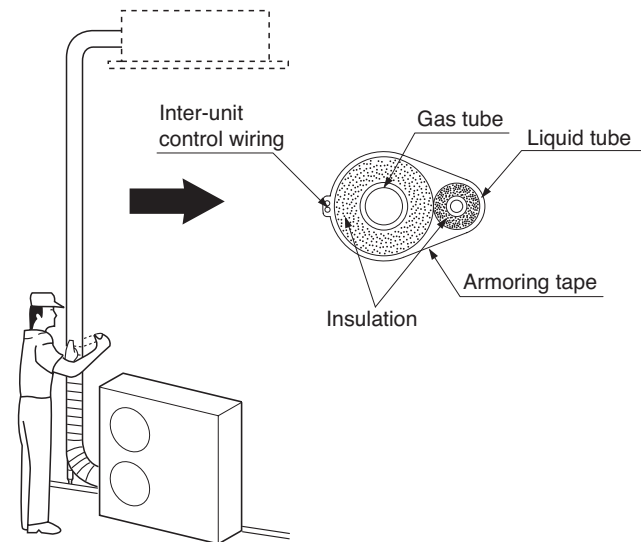

Fig. 9-12
- (1) At this time, the refrigerant tubes (and electrical wiring if local codes permit) should be taped together with armoring tape in 1 bundle. To prevent condensation from overflowing the drain pan, keep the drain hose separate from the refrigerant tubing.
- (2) Wrap the armoring tape from the bottom of the outdoor unit to the top of the tubing where it enters the wall. As you wrap the tubing, overlap half of each previous tape turn.
- (3) Clamp the tubing bundle to the wall, using 1 clamp approx. each meter. (Fig. 9-12)